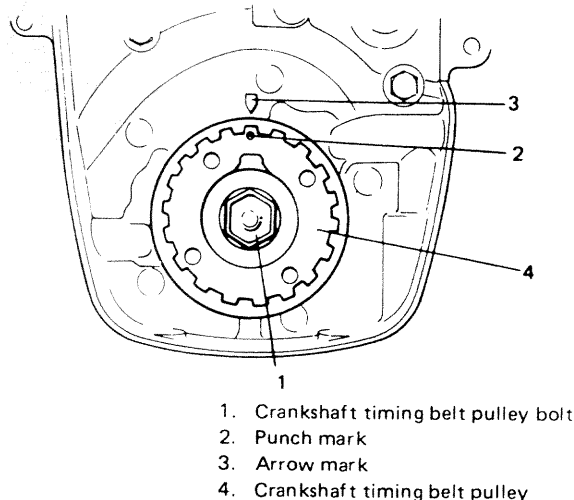

Fig. 3-6-49 Timing marks
- 8) Turn crankshaft clockwise, fitting 17 mm wrench to crankshaft timing belt pulley bolt, and align punch mark on timing belt pulley with arrow mark on oil pump as shown in Fig. 3-6-49.